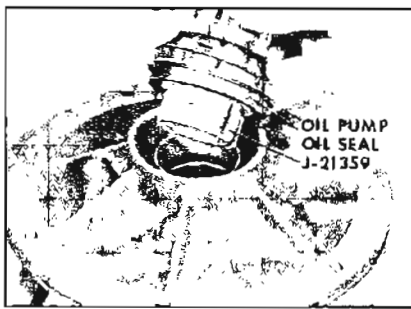

Figure 5-204
2. Using Installer J-21359 tap in new oil seal. See Figure 5-204.